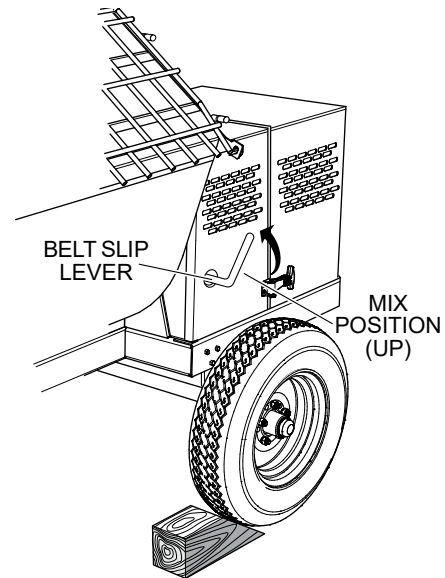

Figure 28. Belt Slip Lever (MIX Position)
3. Place the belt slip lever in the **MIX** (up) position. This will tilt the engine, placing tension on the V-belts and enabling the shaft to rotate. See Figure 28.